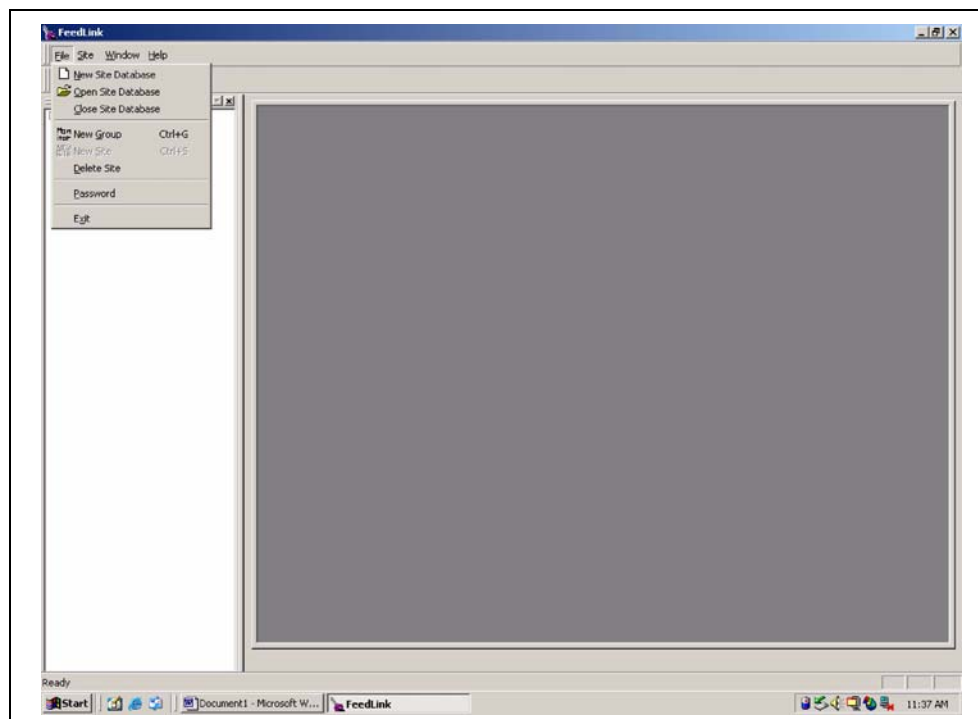

Figure 11A Selecting New Site Database
2. Select the file menu and select new site database. (See Figure 11A.)